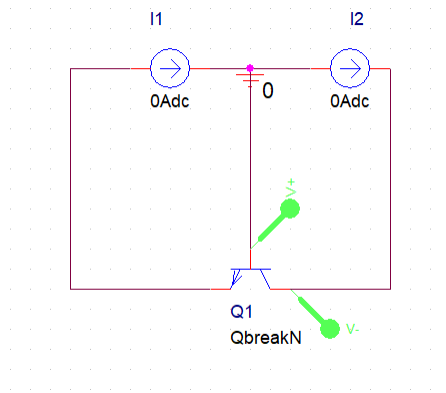

Figure 4: Voltage Indicator Placement for Base - Collector Junction Parameter Extraction
6. Place a set of voltage differential markers at the base and collector pins. See Figure 4.
9. Go back to your circuit, and edit the simulation. Change the current source to the emitter current source(I1 as shown in Figure 4), and set the start value to $1\mu\text{A}$ and the end value to 1mA with an increment of $0.1\mu\text{A}$.